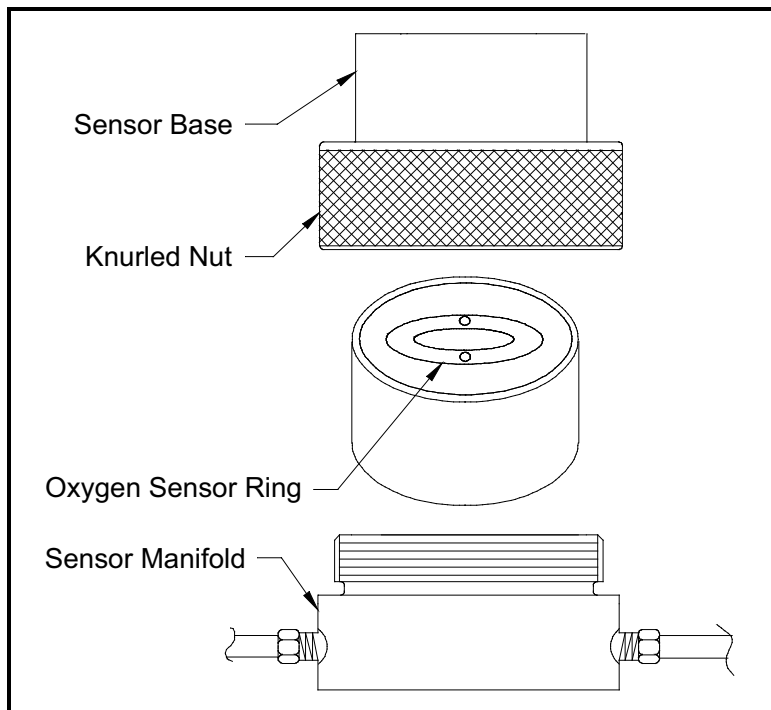

Figure 6: Oxygen Sensor Installation
To install a new or replacement oxygen sensor in the oxy.IQ, refer to *Figure 6* below and complete the following steps:
6. Orient the sensor so that its gold-plated electrodes are facing the spring-loaded contact pins in the sensor base (see *Figure 6 on page 10*). Firmly press the oxygen sensor into the sensor base at the bottom of the oxy.IQ electronics module.